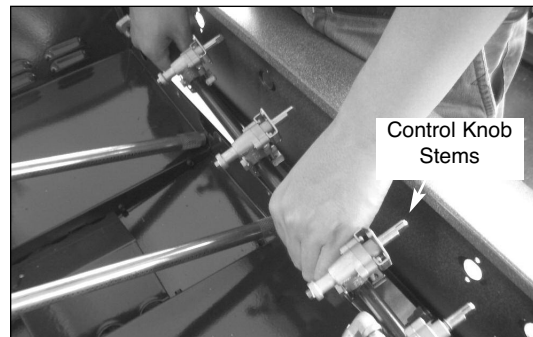

Fig 16
17. Hold the manifold, slightly move it to the right and lift the left end out. (See Fig. 16)
19. Start by placing the new manifold into the grill body with the control knob stems facing outward through control panel front. (See Fig. 16)